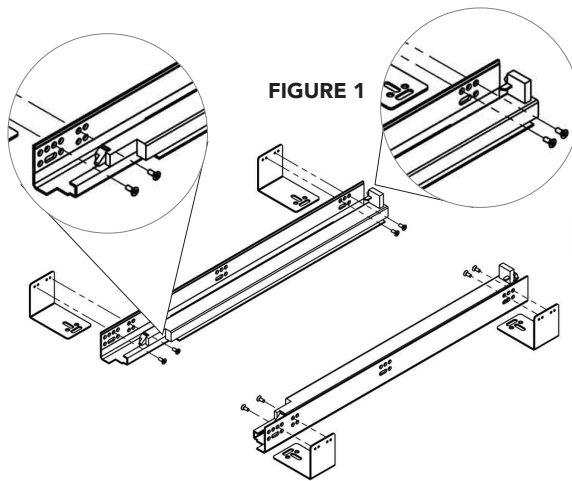

FIGURE 1
Attach bottom mount brackets to front and rear of each slide using (8) M4x10 screws (See Fig 1).